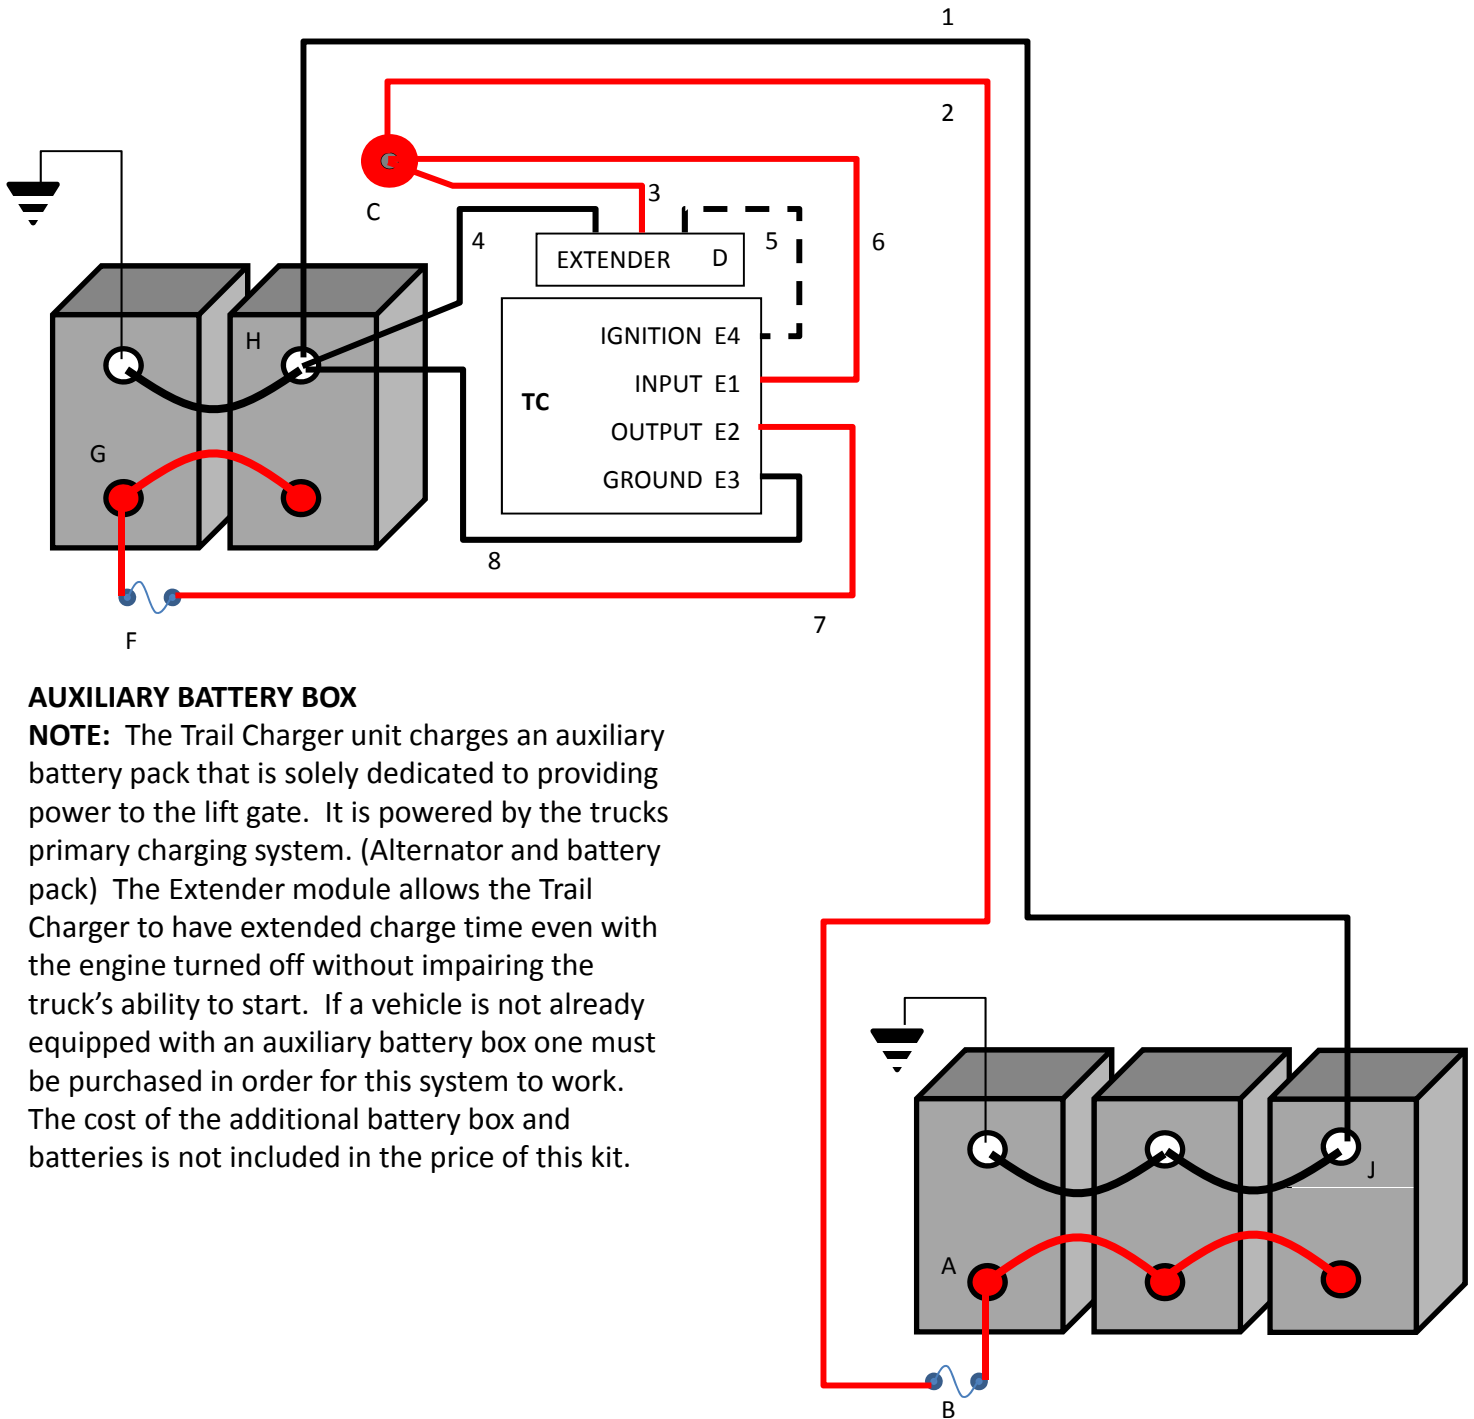

Figure 18
**Step 18:** Now the metal cover can be installed to further protect the Trail Charger from physical damage and road splash. Use four self drilling screws (provided) to attach the cover to the battery box. Check the back side of the mounting location to ensure that nothing will be damaged during installation. (See Figure 18)